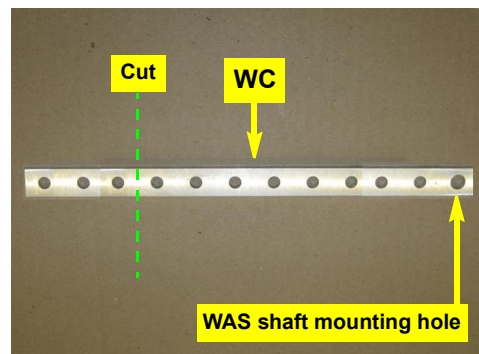

Figure 1b: WAS arm preparation
- b. Cut three holes off WAS arm **WC** at the opposite end from the WAS shaft mounting hole (Figure 1b).